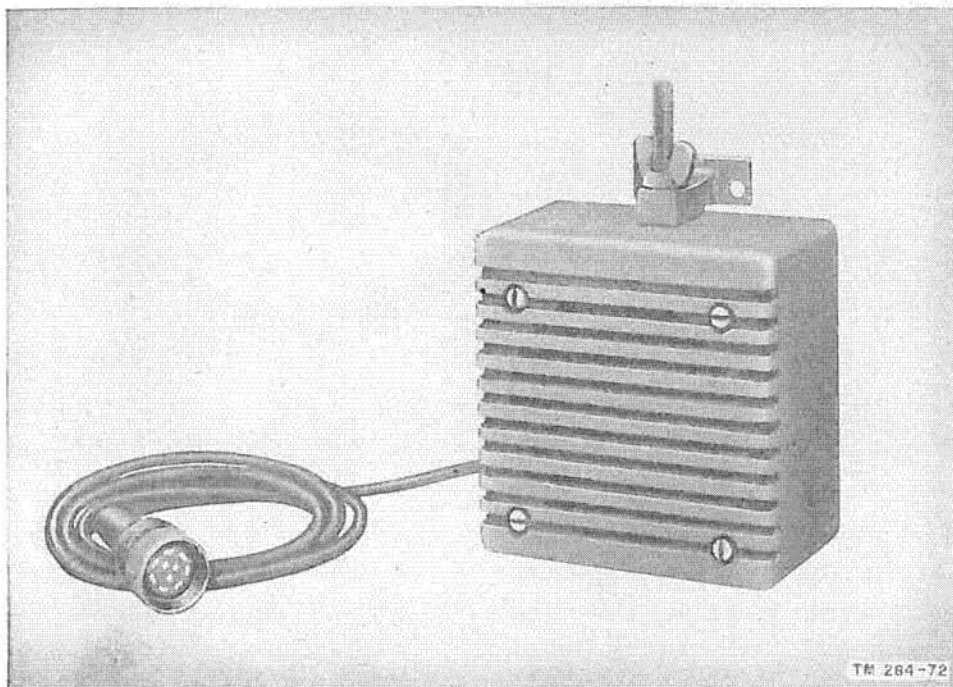

Figure 15. Dynamic Loudspeaker LS-166/U.
d. DYNAMIC LOUDSPEAKER LS-166/U. Dynamic Loudspeaker LS-166/U (fig. 15) is a 4-inch, permanent-magnet dynamic Loudspeaker with a voice-coil impedance of 8 ohms. A 5-foot cord, terminated in a 10-pin audio connector, is provided for connecting the speaker to the audio receptacles wired for loudspeaker or phone operation. A rotary switch on the side of the speaker may be used to switch the unit from speaker to phone output or to disconnect the speaker circuit entirely.